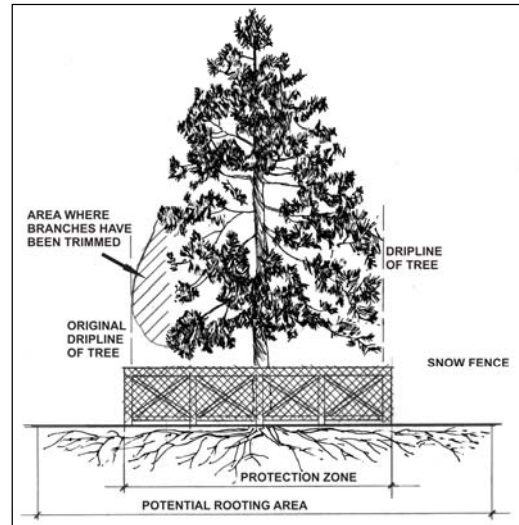

Fig. 1b - Example of a *drip line* on a tree with one side pruned
**Note:** If the tree is on an adjacent property, the drip line must still be protected on your side of the property line. If the branches have been cut or pruned, the TPZ must protect the original drip line of the tree (Fig. 1b).